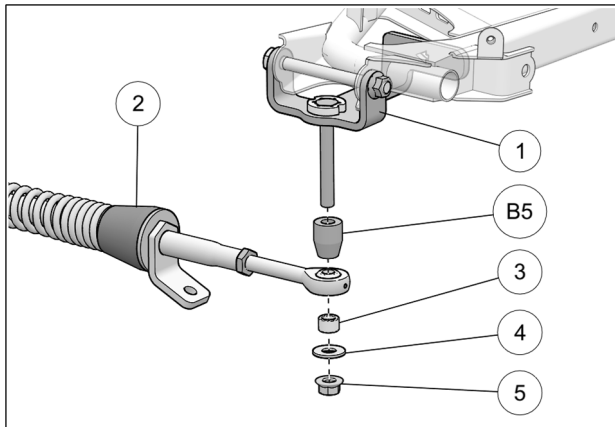

Fig. 10
9. Attach stabilizing rod (2) to anchor bracket (1), using the long spacer bushing (B5), short spacer bushing (3), flat washer (4) and nut (5). Torque to  $70 \text{ N}\cdot\text{m}$  [ $52 \text{ lb}\cdot\text{ft}$ ]. See Fig. 10